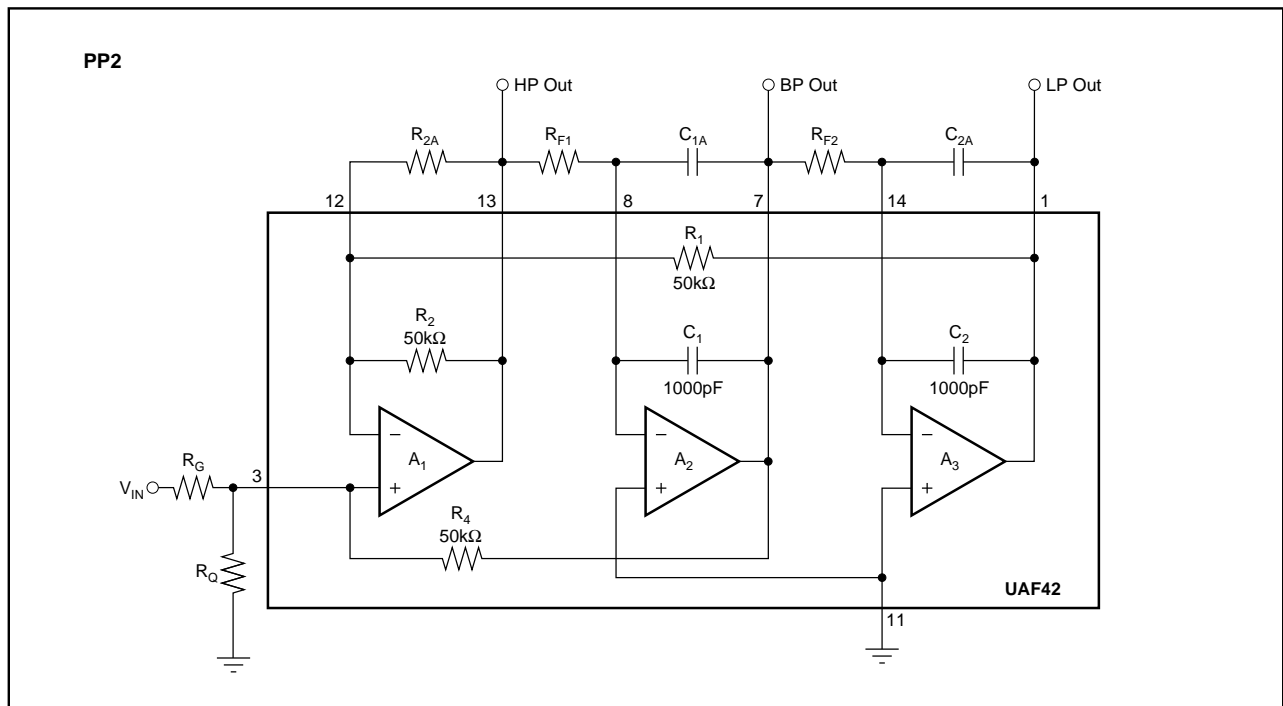

FIGURE 8. PP2 Noninverting Pole-Pair Subcircuit Using External Gain-Set Resistor  $R_G$ .
**PP2** (Noninverting pole-pair subcircuit using an external gain-set resistor,  $R_G$ )—See Figure 8. This configuration is used when the pole-pair Q is less than 0.57.